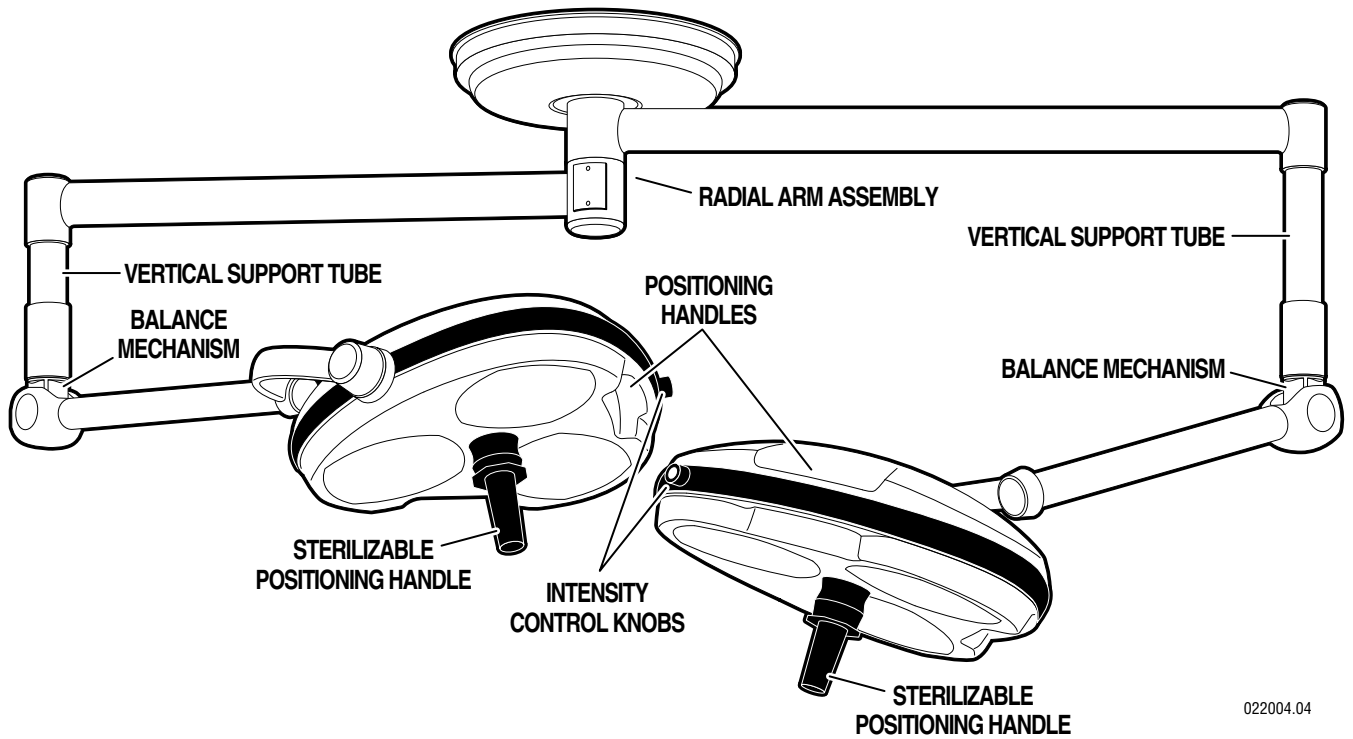

Figure 2-1. Dual Lighthead Fixture
a. Position the lighthead as required by grasping the lighthead positioning handles and moving the lighthead to the desired position. See figure 2-1.
b. Turn the light fixture main power switch "ON" at the wall mounted switch or Wall control (ST19WC & ST1919WC models) and select the desired intensity for each lighthead as required. See figure 2-1 or 2-2. The mid-range position will provide adequate illumination for most procedures. Full intensity will usually only be required for extreme deep cavity cases.